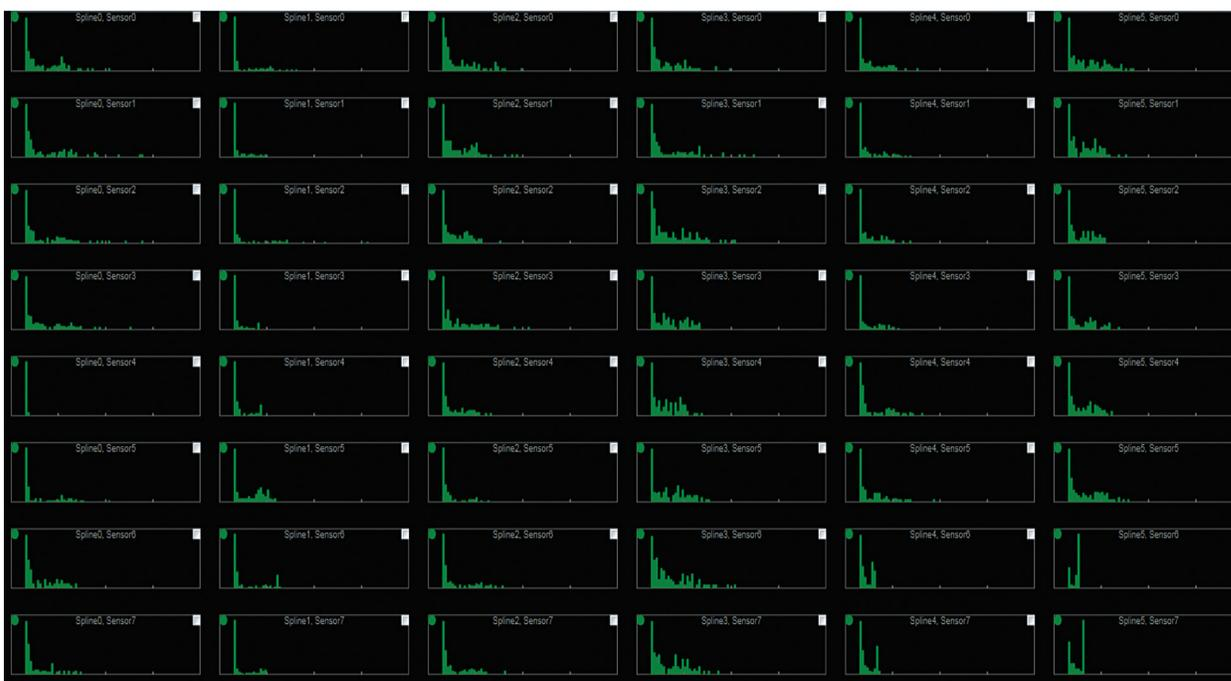

Figure D-6. Example of asynchronous noise displaying as a skewed distribution.
- The Ultrasound detection gain and threshold are configured for typical operation. On occasion, the gain or threshold settings may be overly sensitive and noise will be detected immediately after the end of the minimum reject interval. With asynchronous noise, the errant, detected ranges will be exhibited as a skewed distribution (*Figure D-6*), with a hard limit on the left-hand side at the minimum reject interval.
NOTE: The hard limit on the left is consistent from channel to channel in the plot in *Figure D-6*. This is a clear indication of a high level of noise being detected. Detection gain and threshold should be adjusted to reduce this behavior. Nodes marked as “excluded” should be entered in the “Excluded Ultrasound Channels” list under the Build menu.